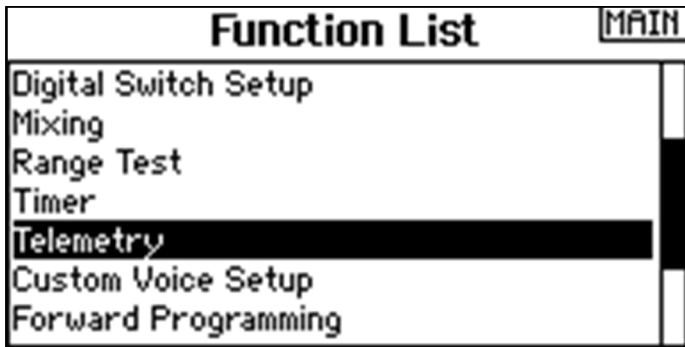

Figure 6: "Telemetry" in der Function List
7. Press the scroll wheel to access the "Function List" and select "Telemetry" (Fig. 6).